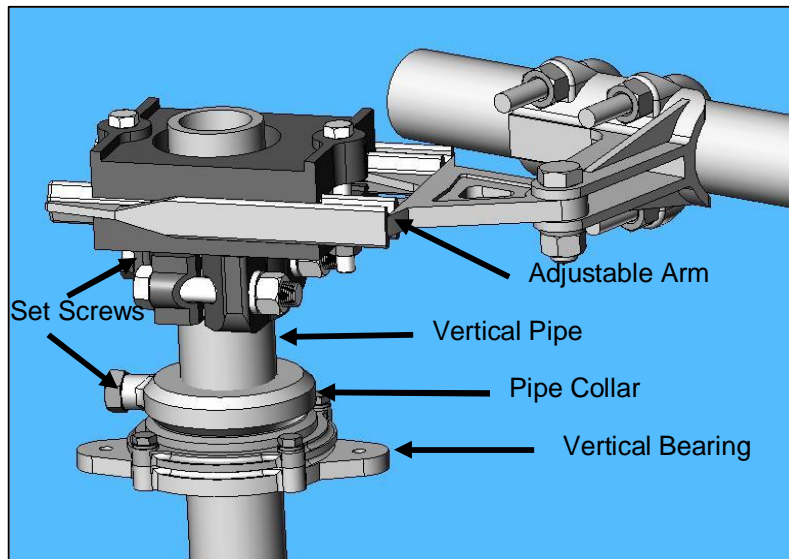

Figure 14: Typical Operating Arrangement
- 13.6. **CAUTION:** The pipe collar (above the vertical bearing support) must support the entire weight of the vertical operating pipe. **Do not allow the pipe to rest on the switch operating device refer to Figure 14**